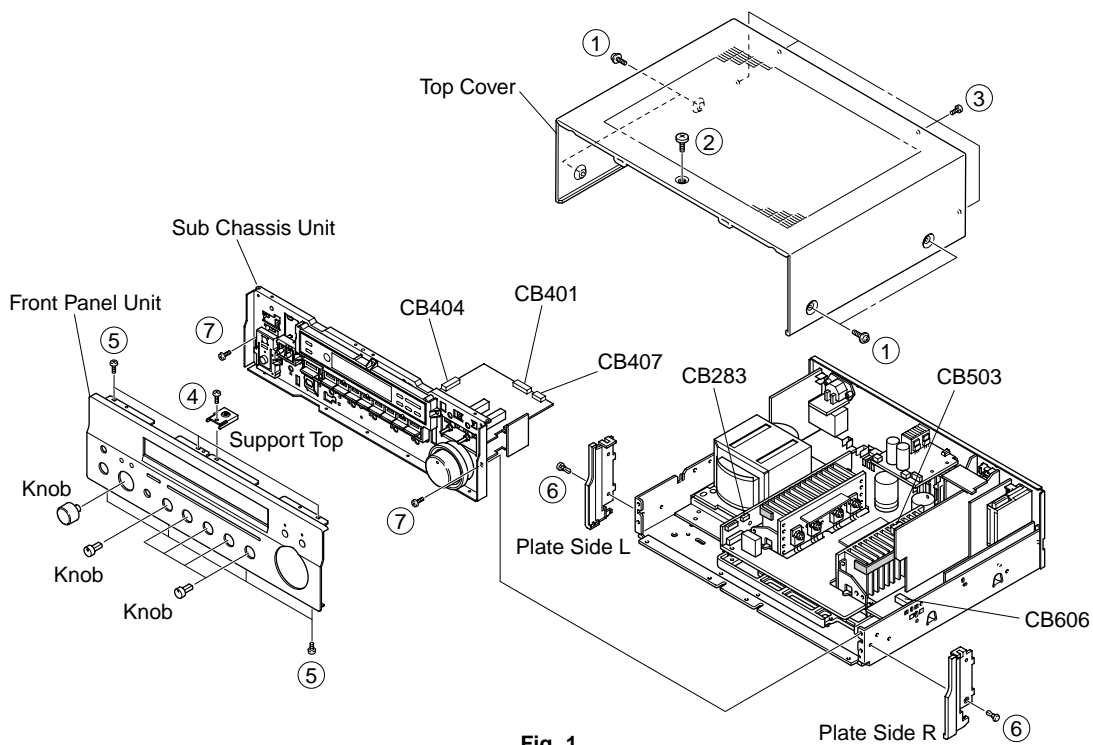

Fig. 1
- Remove 4 screws (①), 1 screw (②) and 4 screws (③). (Fig. 1)
- Slide the Top Cover rearward to remove it. (Fig. 1)
- Remove 1 screw (④) and then remove the Support Top. (Fig. 1)
- Remove 7 screws (⑤) and then remove the Front Panel Unit. (Fig. 1)
- Remove 2 push rivets (⑥) and then remove the Plate Side L/R. (Fig. 1)
- Remove 2 screws (⑦) and then slide the Sub Chassis Unit forward. (Fig. 1)
- Remove connectors CB283, CB401, CB404, CB407, CB503 and CB606 and then remove the Sub Chassis Unit. (Fig. 1)